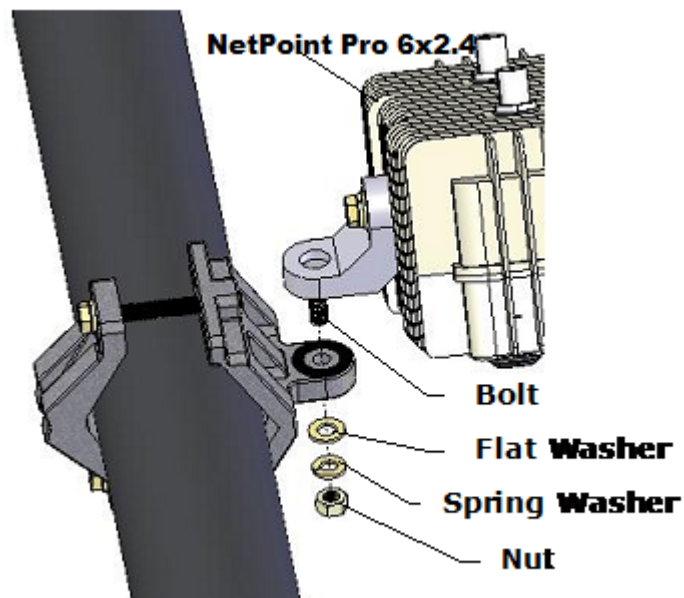

Figure 4: NetPoint Pro 6x2.4 Unit Mounting
1. After assembling the brackets, mount the NetPoint Pro 6x2.4 unit on to the bracket as shown in Figure 4. Use a flat washer [F], a spring washer [G] and a nut [H].